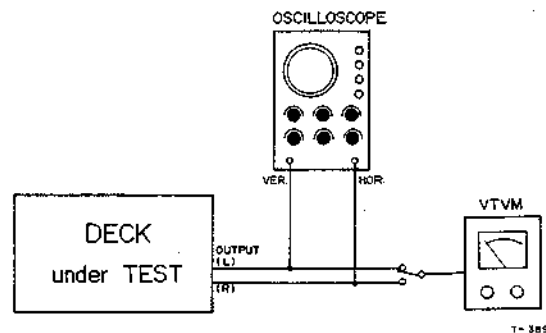

Fig. 31 Head Phase Check Setup
- Connect an oscilloscope to the OUTPUT jacks as illustrated in Fig. 31.